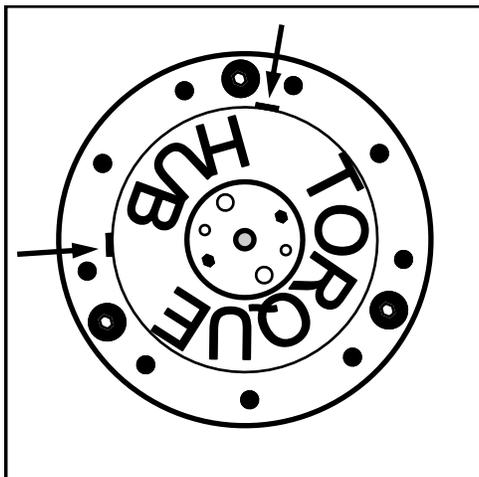

FIG 7.3
**OIL LEVEL** - Each Torque Hub® should maintain an oil level of half full at all times. Less than that would limit lubrication, and over half full could cause overheating and damage. To check oil level, position Torque Hub® so one of the drain plugs is positioned at 12 O'clock (fig. 7.3). The other plug will be either at 9 O'clock or 3 O'clock. Remove the lower plug: if no oil comes out, oil level is too low. Check Torque Hub® oil level daily.